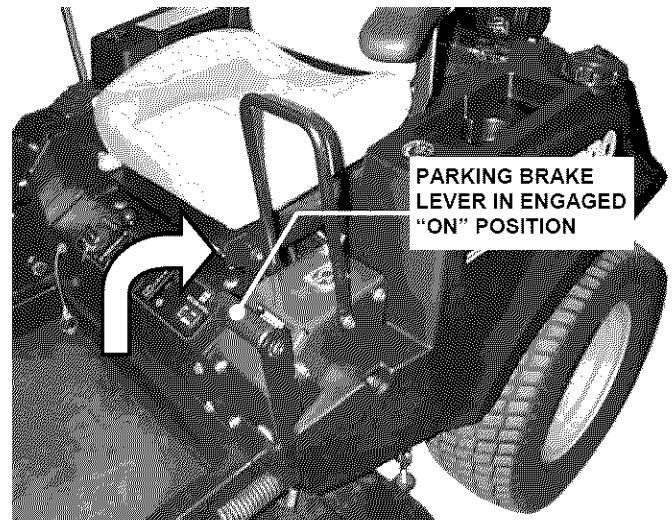

FIGURE 3.7
1. Engage parking brake by pulling the parking brake lever back to the engaged position. See Figure 3.7.
12. Move motion control lever to the neutral position and engage the parking brake, See Figure 3.7, hold connecting rod up to the activation assembly and check length of rod. Tie rod end bolt must align with the activation assembly. If bolt is not aligned with the activation assembly, adjust tie rod. Loosen jam nut that secures tie rod. Rotate tie rod in or out to align with hole in activation assembly. Repeat step for other hydro pump. See Figure 5.4.